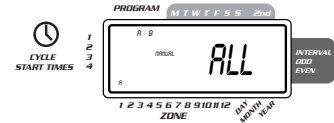

FIGURE 10: Semi-Automatic Watering for Stations Assigned to A and B Programs
- Turn the rotary dial to **AUTO**, then press the **MANUAL** key. The display will show **"AB"**, **"MANUAL"**, and **"ALL"** will be blinking [See Figure 10]. This indicates all stations will semi-automatically water for their assigned durations in sequence.